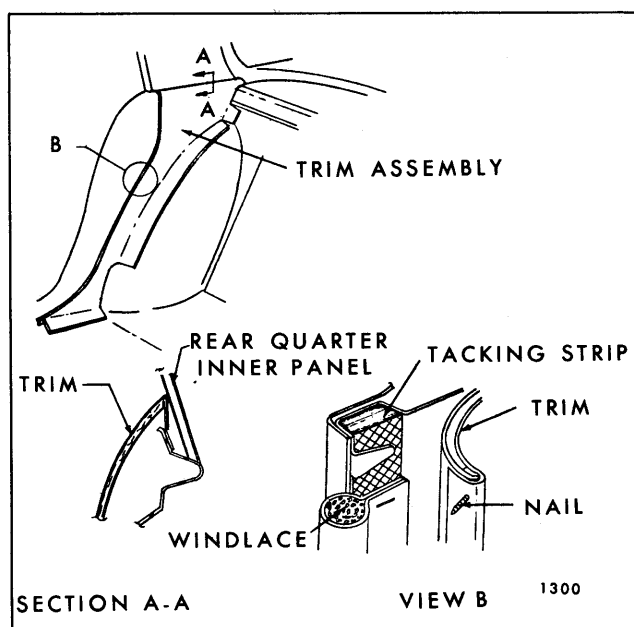

Fig. 14-26—Rear Quarter Lower Trim Assembly - "B-C 39-49-69" Styles
4. On "B" and "C" Styles, insert tool J-6335 or equivalent under leading edge of trim and pry retaining nails from tacking strip (Fig. 14-26).